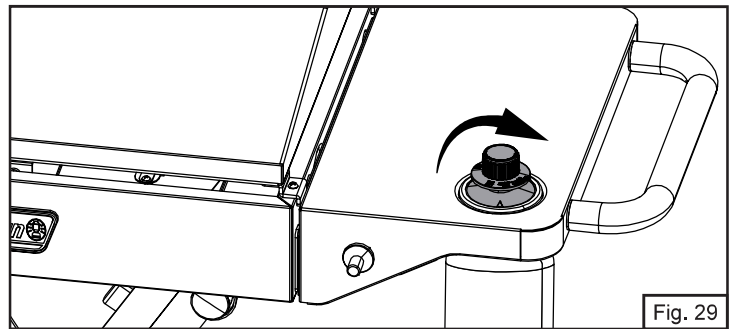

Fig. 29
1. Turn both control knobs off (Fig. 29).